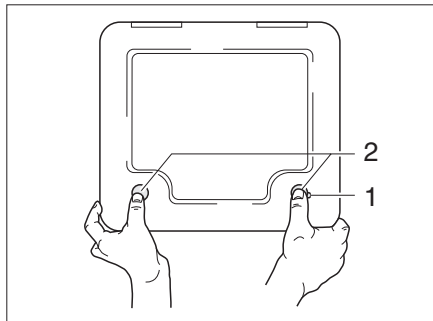

Fig. 188 Flap for the toilet cassette
- Open the flap for the cassette on the outside of the vehicle. Insert the key into the locking cylinder of the push-button lock (Fig. 188,1) and turn a quarter turn.
- Press both push-button locks (Fig. 188,2) simultaneously with your thumb and open the flap for the cassette.